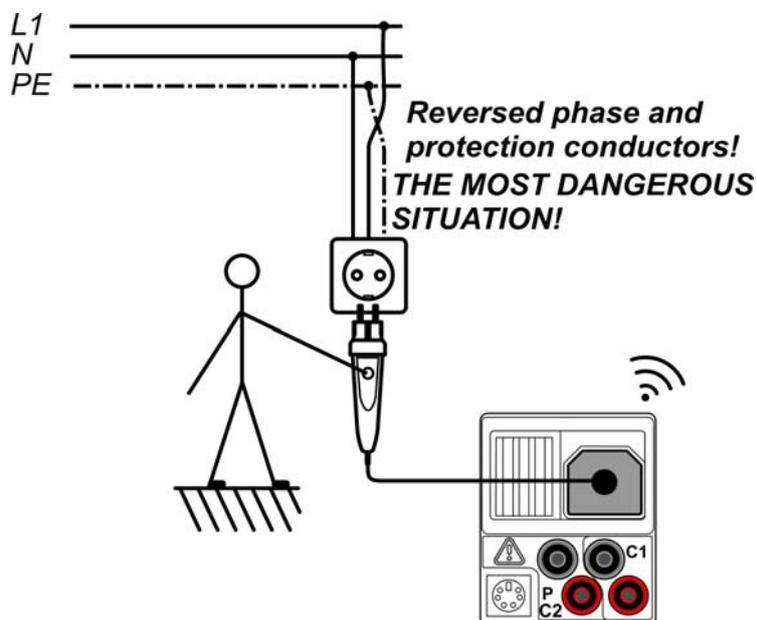

Figure E.4: Reversed L and PE conductors (application of plug commander)
- ❑ **Connect** commander to the item to be tested (see figure E.4).